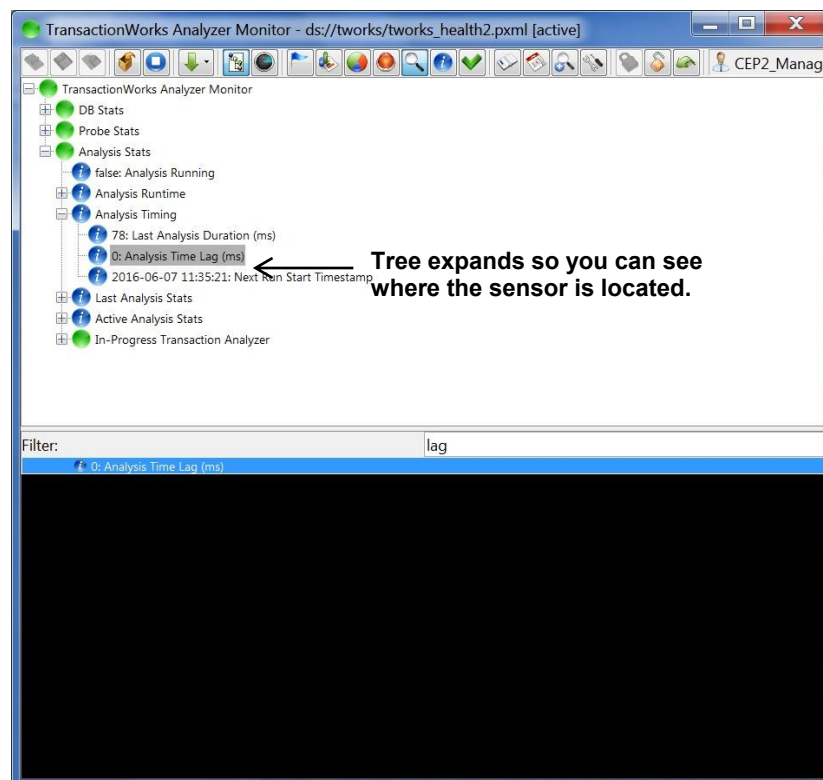

Figure 4-61D. Expanded Tree
3. In this example, we searched for a sensor with **lag** in its name. The result was the **Analysis Time Lag (ms)** sensor. Click **Analysis Time Lag (ms)** to expand the tree in the top pane to see where sensor is located (Figure 4-61D).